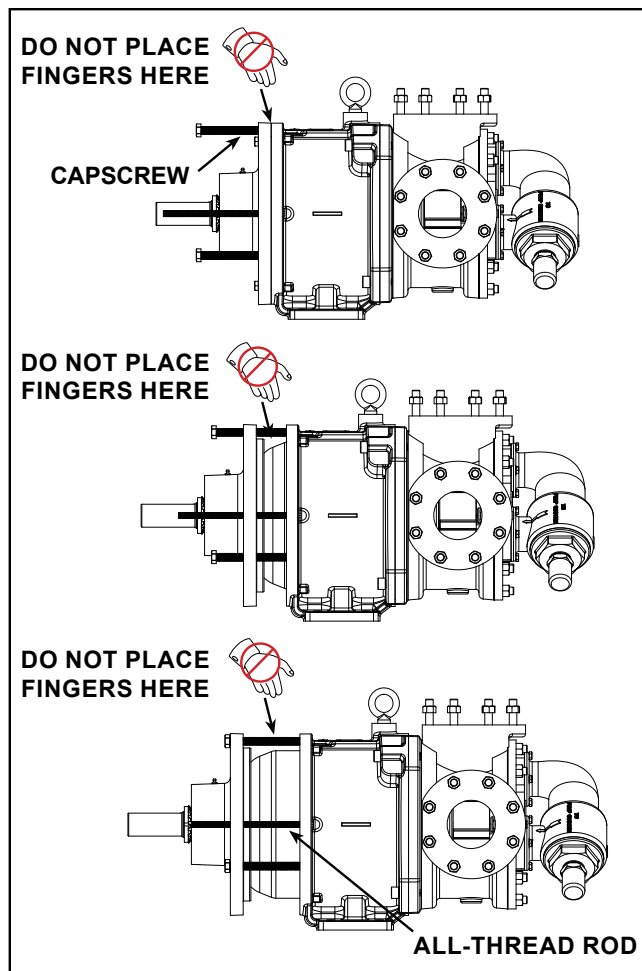

FIGURE 8
9. Use the jackscrews (14) in the bearing housing to separate the inner magnet (57) from the outer magnet (58), see sequence in **Figure 8**. To keep the bearing housing and bracket assemblies properly aligned and for additional safety, it is recommended to use 2 lengths of all-thread rod (12") threaded into opposite capscrew locations in the bracket and slide through the corresponding holes in the bearing housing.
10. Slide the outer magnet assembly out of the bracket (27). Visually inspect the outer magnets. Inspect the magnet assembly for damage or wear; replace if needed. If further disassembly of the bearing housing is required, see **"Disassembly / Assembly of Bearing Housing"**, page 7.
11. Place the canister sleeve (3-810-025-999-00) into the bracket over the canister (59). Remove the socket head capscrews (28 & 28A) securing the bracket to the pump. Support the pump with an overhead hoist and fixture that is in-line with the center of gravity of the pump. Slide the pump out of the bracket.
12. Remove the canister sleeve. Remove the socket head capscrews (54) from the canister. If the canister was not drained in Step 1, it will contain liquid. Use care when removing the canister from the pump by pulling it straight off. Inspect the canister bushing (64) for wear. If the canister bushing needs to be replaced, see **"Installation of Bushings"** on page 7.
13. Inspect the O-ring (65). Do not remove the O-ring from the plate adaptor (67) / canister unless it is damaged, especially if it is PTFE encapsulated. If a new O-ring is required, See **"Pump Assembly"** on page 8.